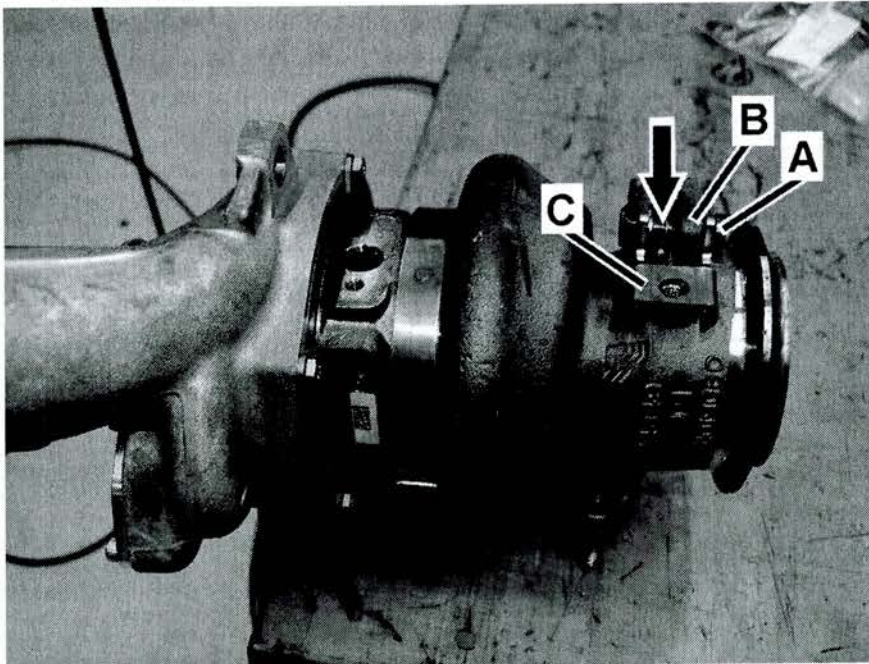

Figure 5
- In the event turbo mounting bracket bolt (A, Figure 5) is binding in turbo mounting eyelet (B), cut through bolt (at arrow) with rotary cutting tool (etc.) to remove bolt (A) from turbo.